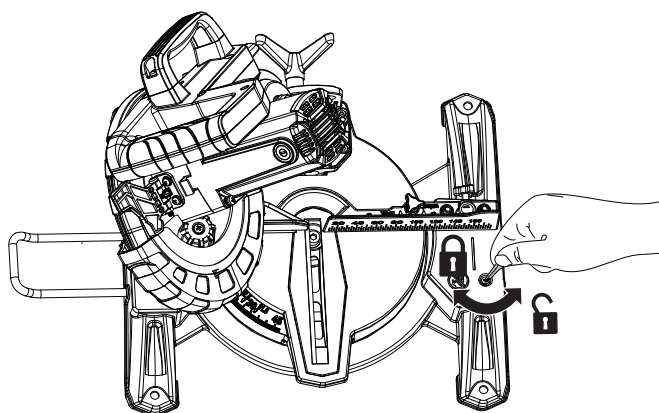

Figure 6
- 4) Loosen and remove the screw on the corner of the base plate using a screwdriver. (See Fig. 6)
- 6) Re-tighten the screw on the corner of the base plate using a screwdriver to secure the extension bar. (See Fig. 6)